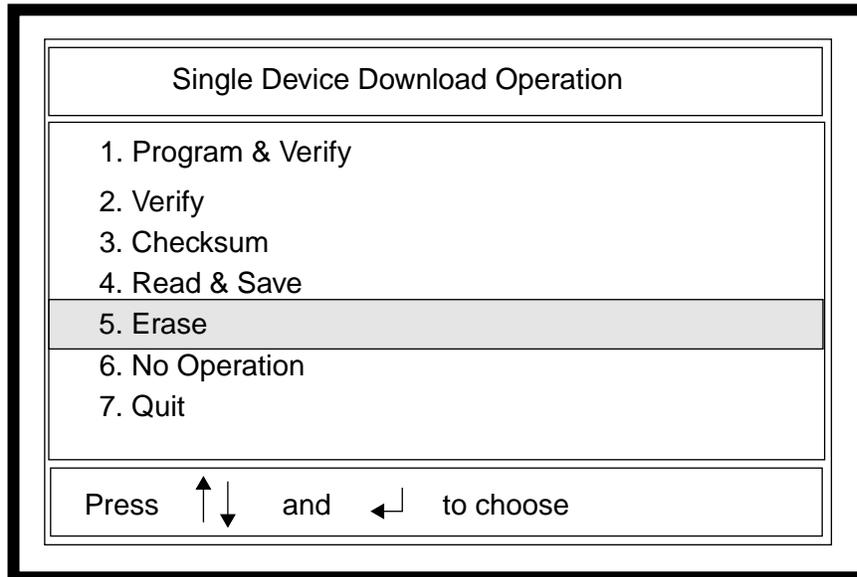

Figure 3-58. Erasing a Device
1. Type **5** or **E** from the Single Device Download Operation menu (Figure 3-58).